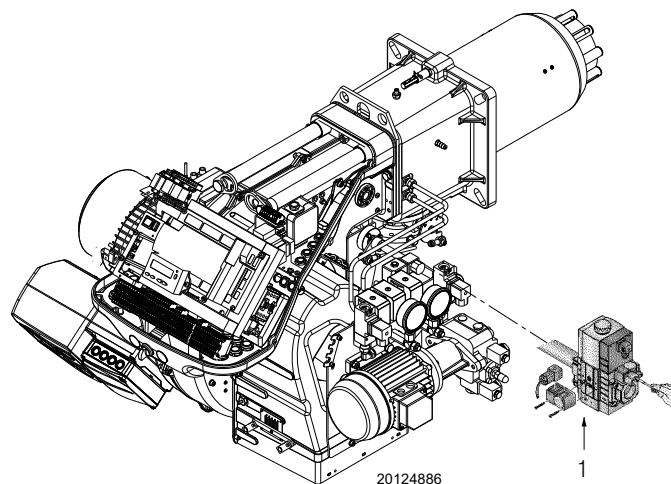

Fig. 41
- Check the gas supply pressure by connecting a pressure gauge to the pressure test point 1)(Fig. 41) of the minimum gas pressure switch: it must be lower than the maximum allowed pressure of the gas train, as shown on the characteristics label.
- Bleed the air from the piping of the gas train, connecting a plastic tube to the pressure test point 1)(Fig. 41) of the minimum gas pressure switch.